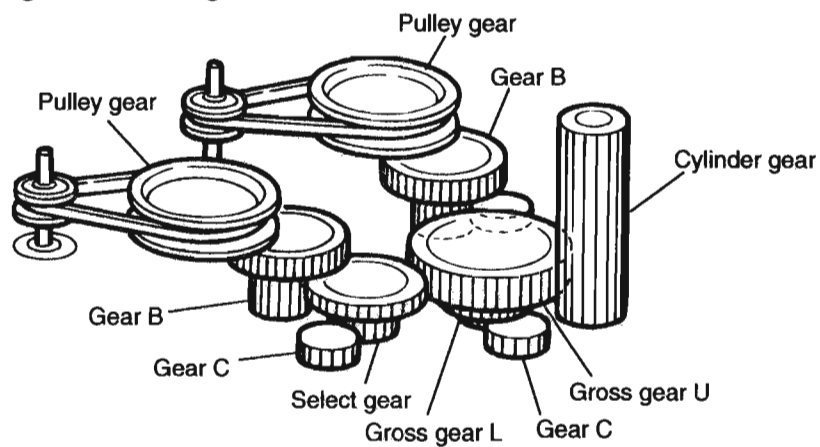

Fig.21
5. After turning over the chassis assembly, remove the actuator motor while spreading the four pawls "R" fixing the right and left actuator motors in the arrow direction(See Fig. 21).